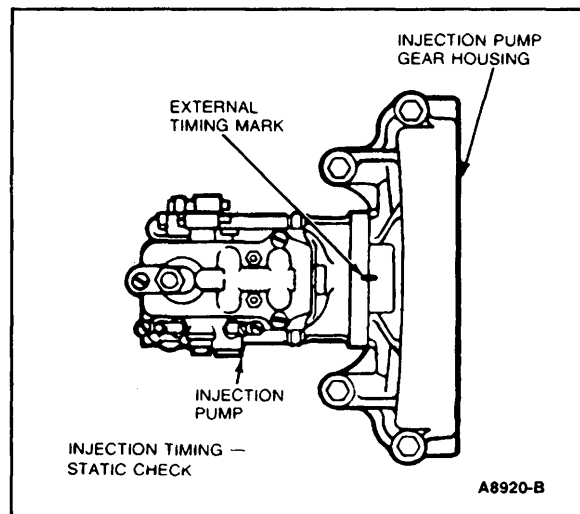

Figure 13 Injection Pump Timing Marks
4. Remove rotating tool and tighten nuts to specification. Visually check timing to verify that timing marks are aligned (Fig. 13).